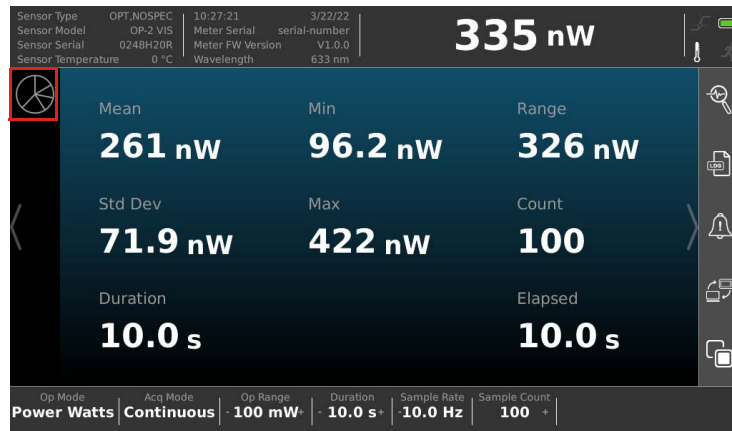

Figure 6-26. Statistics View
- To adjust how statistics are displayed, press the Statistics Settings button at the top left. Refer to highlight in Figure 6-26.